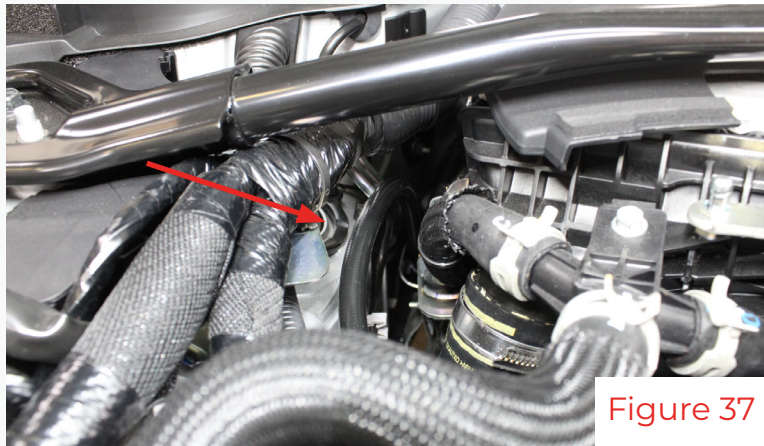

Figure 37
19. Be sure the new fuel line is routed up near the intercooler and connect it to flex fuel sensor(fig 37 & 38).